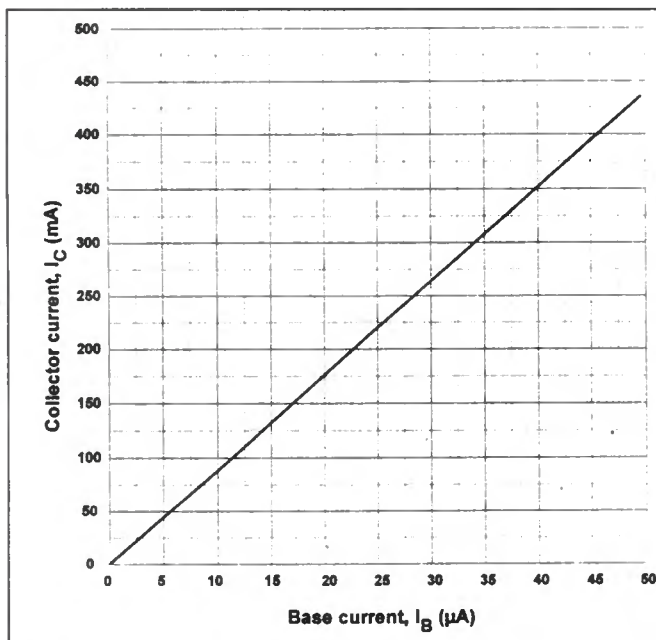

Fig. 4.10 Transfer characteristic (I_C plotted against I_B with V_{CE} constant).
- the transfer characteristic (I_C plotted against I_B with V_{CE} constant, Fig. 4.10).
In contrast, the transfer characteristic shown in Fig. 4.10 takes the form of an almost straight line. This shows that, as the base current is increased, the collector